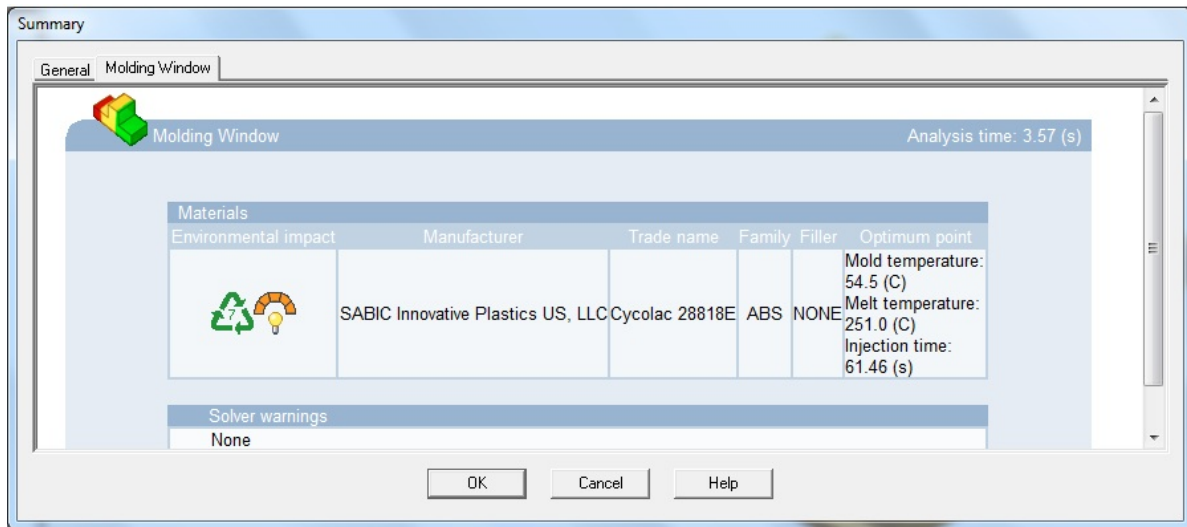

Figure 19-98 The *Summary* dialog box
3. After the analysis is complete, the summary is displayed in the summary dialog box, as shown in Figure 19-98. Choose the **Cancel** button to exit. You can view the analysis report any time from the **Results** node in the **Mold Design** Browse Bar.